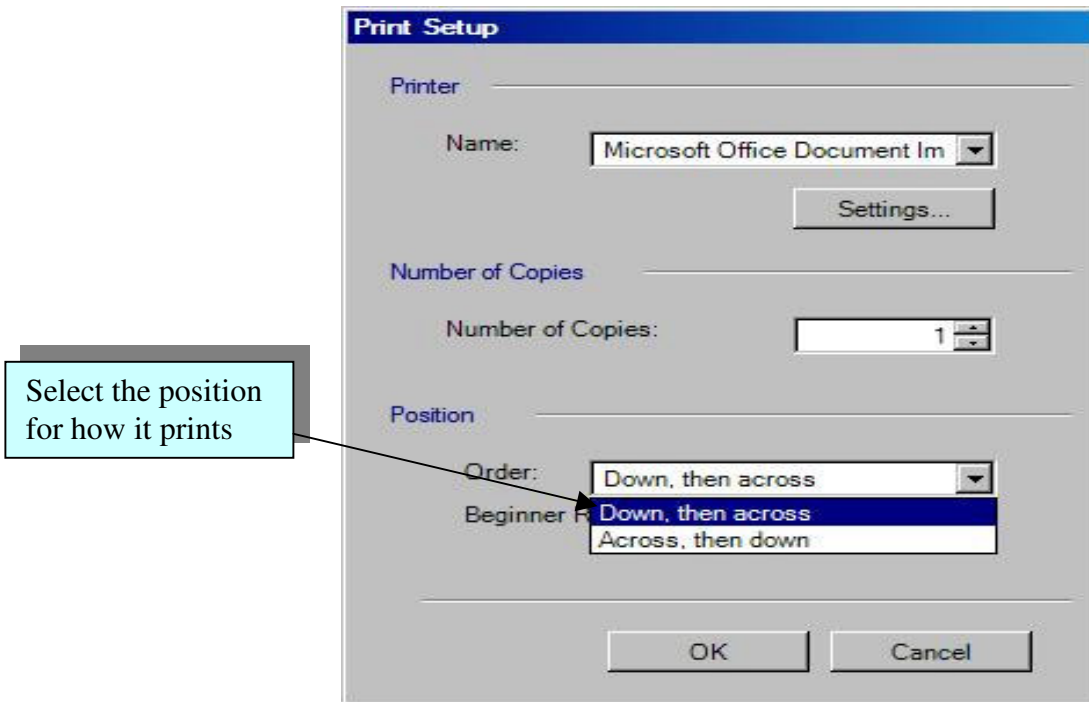

Figure 5.4.7: Select Position
4. Select the Position that you want it to print at (see Figure 5.4.7).